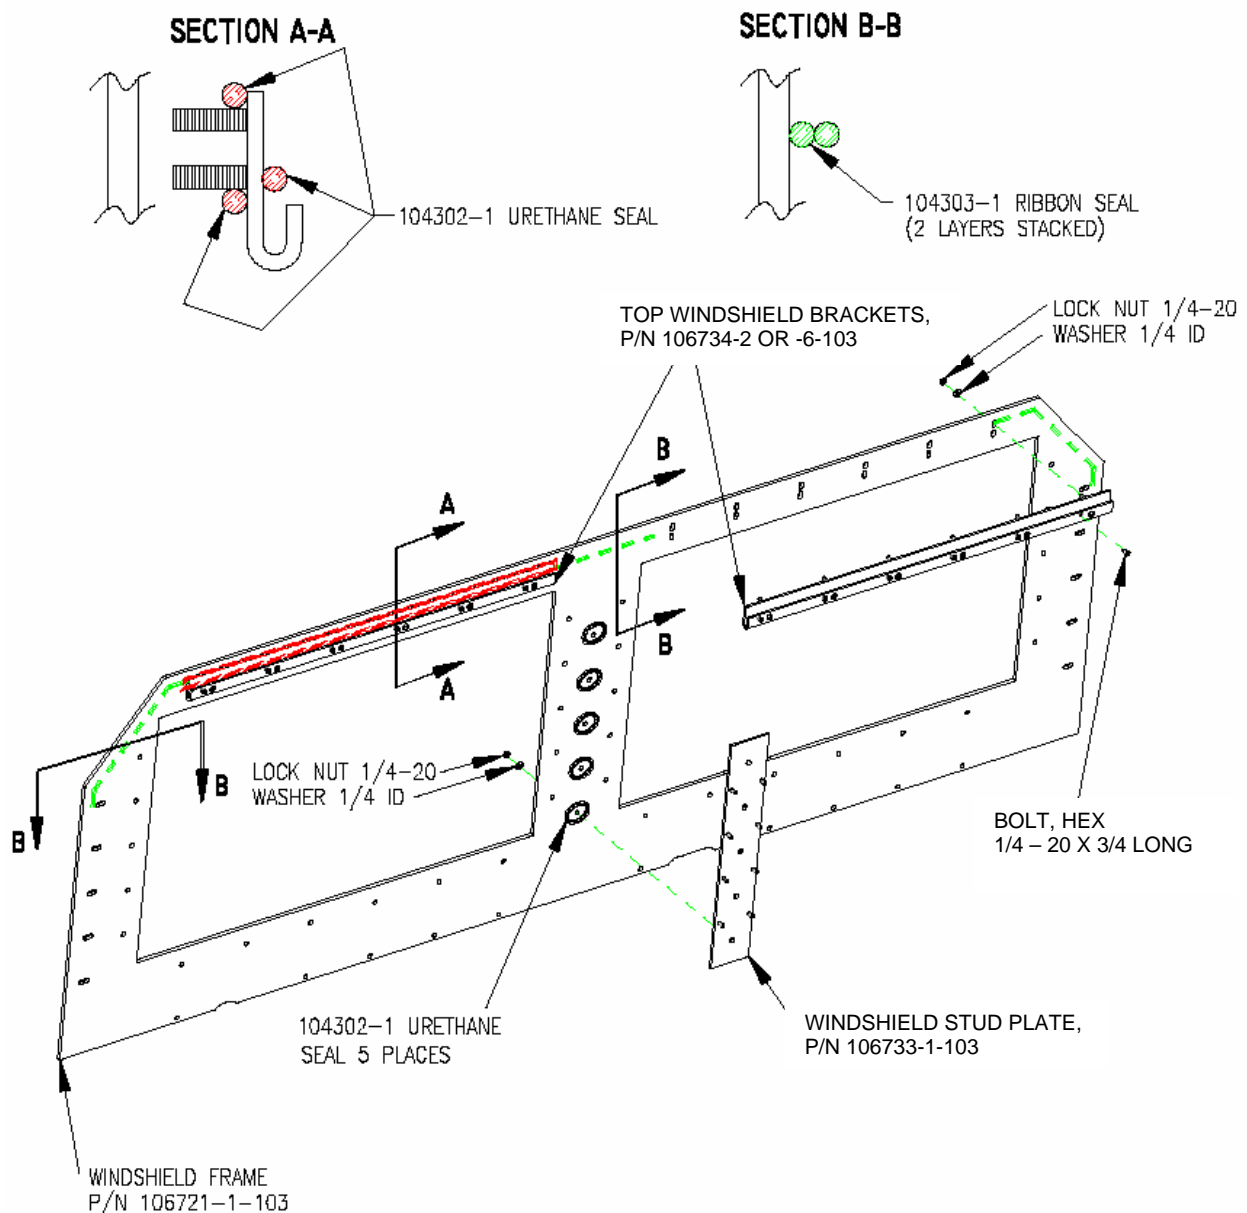

Figure 17. Windshield Frame pre-assembly.
- e. Attach the Top Windshield Brackets (P/N 106734-2 or -6-103) marked “**This Side Out**” to the **opposite** side of the Windshield Frame (P/N 106721-1-103) on the upper studs using twelve (12) 0.250-in. self-locking nuts and washers (see Figure 17). Verify that both brackets are parallel with the top edge of the windshield frame.
- f. Apply sealant (P/N 104302-1) to the windshield frame around the windshield stud plate mounting holes per Figure 17.